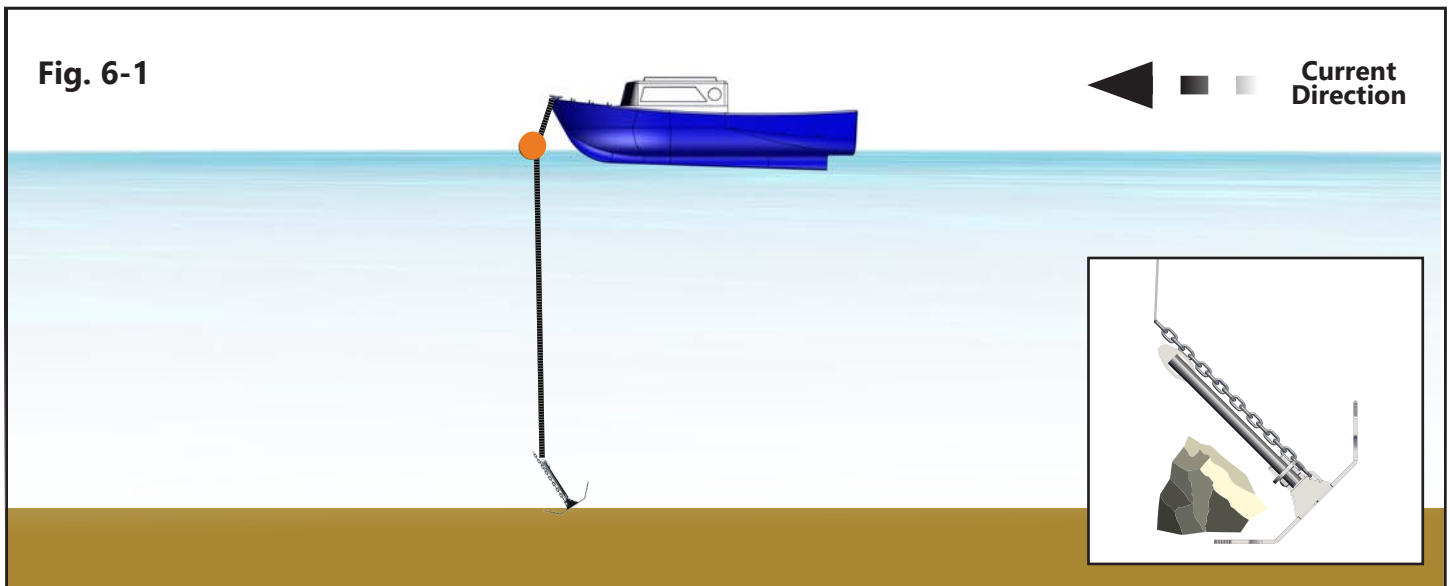

Fig. 6-2
3. Make sure everyone on board is aware of what is happening. Start the boat, swing your boat out from anchor line heading upstream from your anchored position. See **Fig. 6-2**